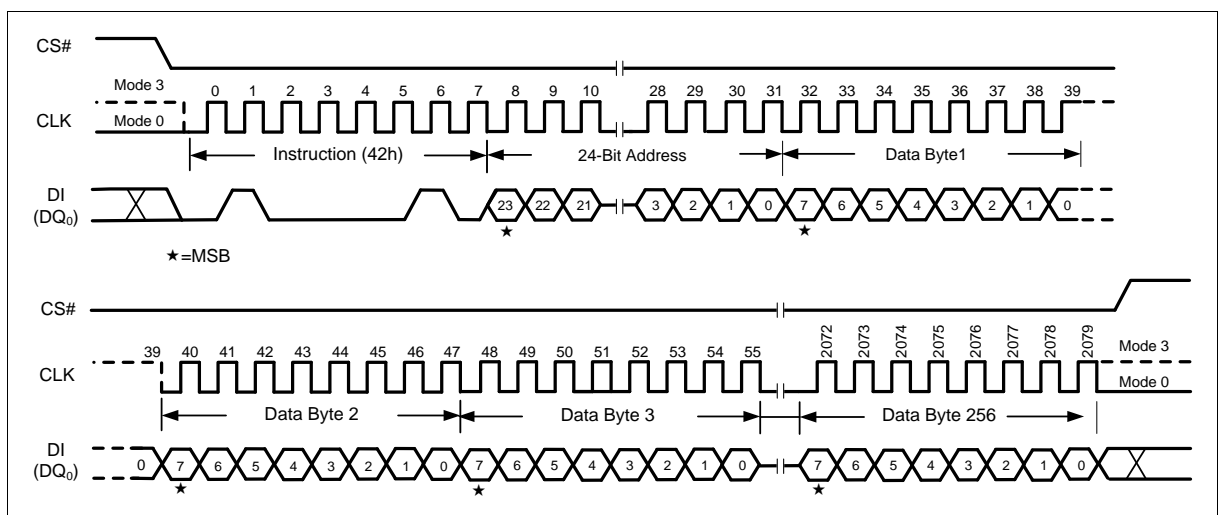

Figure 42 Program Security Sectors Instruction (SPI Mode)
The Program Security Sector instruction sequence is shown in Figure 42. The Security Sector Lock Bit (LB) in the Status Register-2 can be used to OTP protect the Security Sectors. Once a lock bit is set to 1, the Security Sector will be permanently locked, Program Security Sector instruction will be ignored.